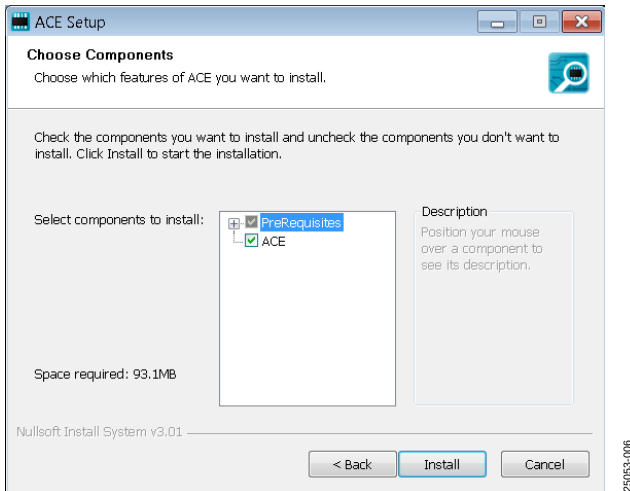

Figure 6. **Choose Components** Window
7. The **ACE** software components to install are preselected (see Figure 6). Click **Install**.